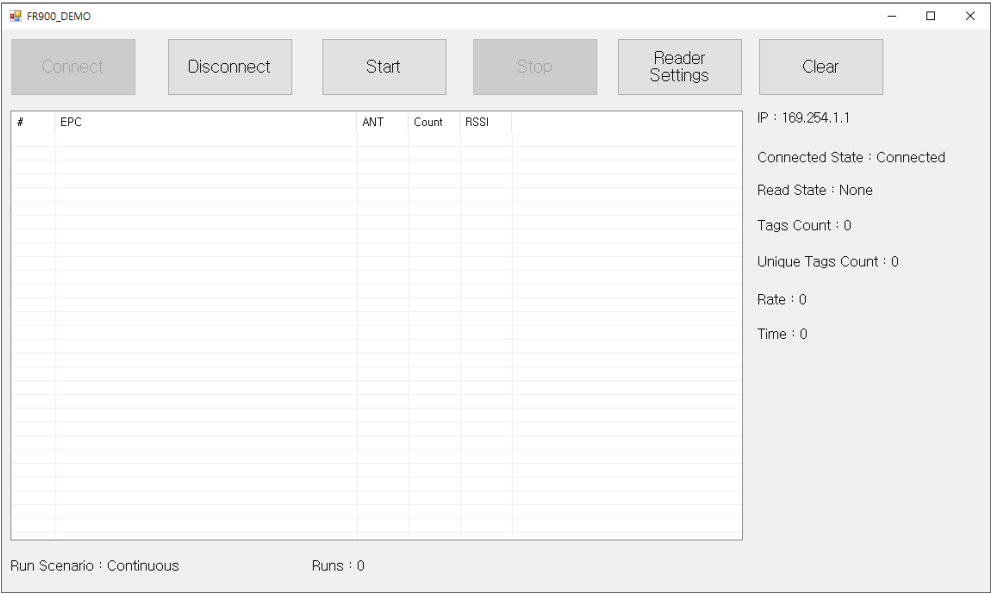

Figure 5.1 DemoApp initial screen
1. Launch The Demo App. The screen shown in Figure 5.1 displays.